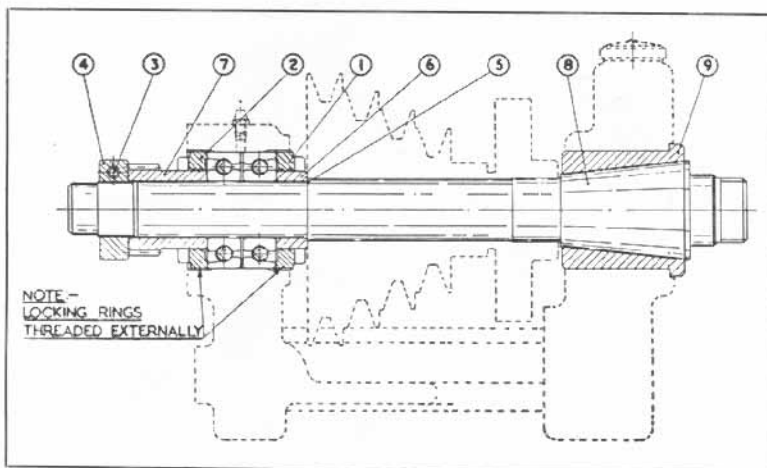

Fig. 34. Showing headstock spindle layout.
As shown in Fig. 34 the headstock bearing layout combines a tapered front journal with twin angular contact ball bearings at the rear. Front journal clearance is adjusted by axial movement of the spindle relative to the tapered bush.
Examination of Fig. 34 will show that the ball bearings are held between the spindle thrust shoulder (5) and the adjusting collar (4), by the distance sleeve (6) and the sleeve gear (7) which act as spacers.
Refer to Fig. 34. Slacken screw (3) just sufficiently to allow adjusting collar (4) to be turned. Excessive freedom in the collar thread may allow the thrust face to move out of square and affect the setting of the ball bearings when the screw (3) is tightened. Rotate collar (4) clockwise (looking on end of spindle) to increase the loading.
**Note.** The ball races should not be loaded more than is necessary to remove all traces of spindle end play. **OVERLOADING WILL CAUSE RAPID DETERIORATION OF THE SPINDLE BEARINGS.** The races are a close fit on the spindle and, should collar (4) be overtightened, it may be necessary (after slackening) to tap the end of the spindle lightly to ensure that the ball races regain a free position.